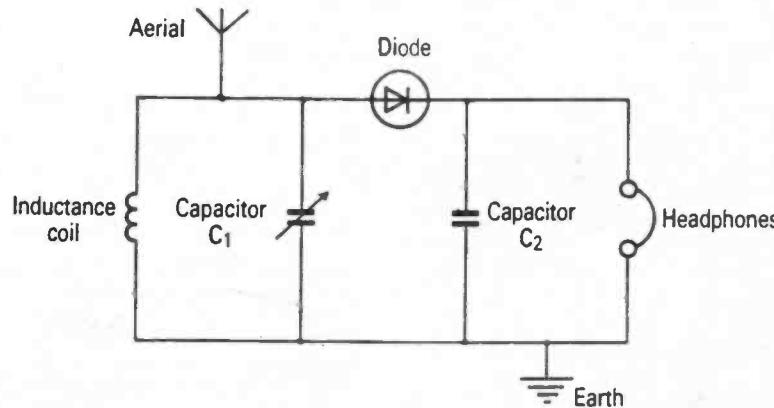

Fig. 20
19. The diagram of a simple Radio Receiver is shown in Figure 20.
(c) What other device(s) would be needed in addition to the ones shown in Figure 20, in order to drive a **high power** loudspeaker?